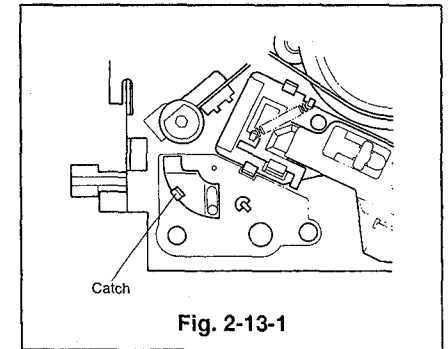

Fig. 2-13-1
- 3 Unfasten the catch to remove the safety arm. (Refer to Fig. 2-13-1).